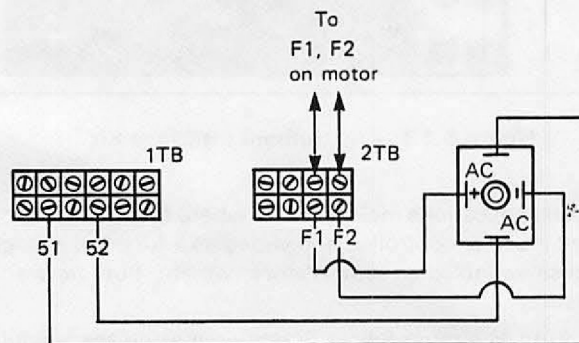

Figure 5.16 — Connecting Field Supply
**Step 2** — Wire from the Field Supply Power Cube to terminals 51 and 52 on 1TB, as shown in Figure 5.16.
**Step 3** — The user-supplied field wiring conductors should be drawn into the Chassis. Route them as indicated in Figure 3.4. Move them to the upper screws on 2TB and connect F1/F2 according to the label or Figure 5.16.